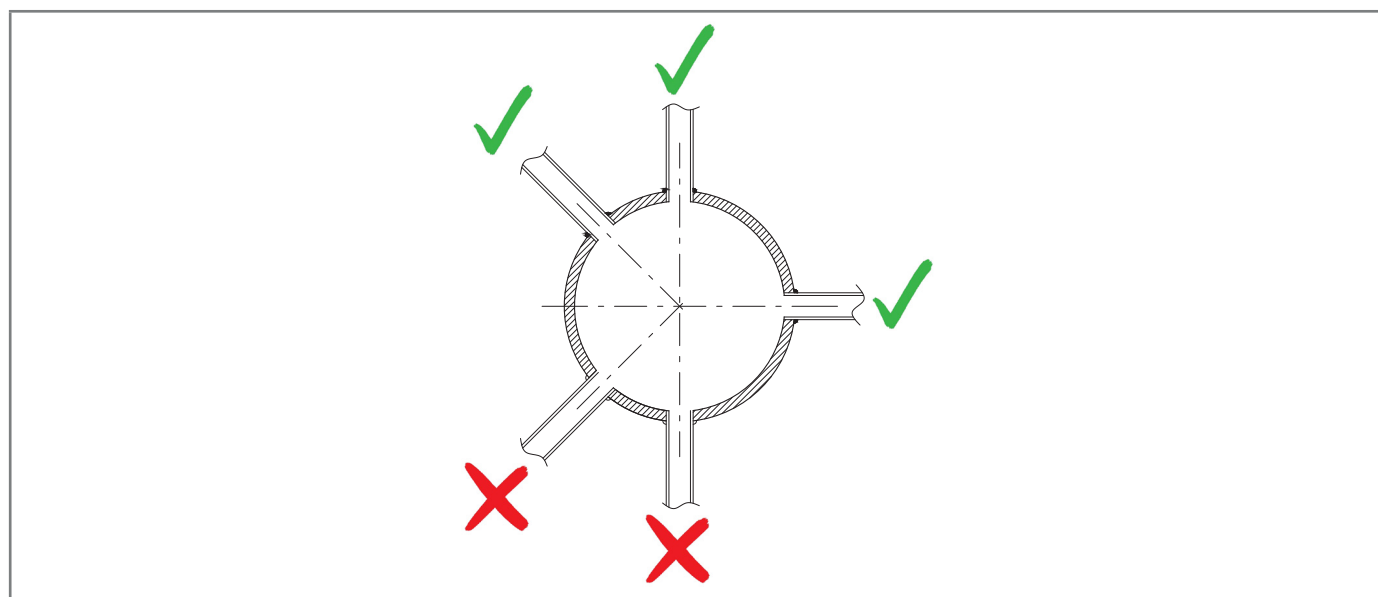

Fig. 6.18. Welded pipe connections
- the connections of the pneumatic connection are always welded to the top or horizontal axis of the pipe itself (refer to fig. 6.18);